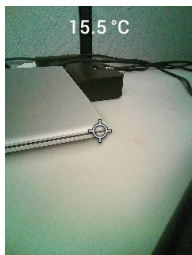

Figure 5.3 Visible Spectrum Digital Camera Image
4. View the image on the display, see **Figure 5.3**. Pull the image capture trigger to save an image. Refer to Section 5.5, *Capturing and Working with Images*, (next) for more information.